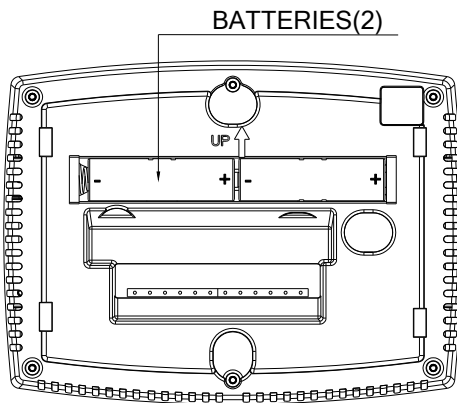

Fig. 22. Installing batteries.
1. Install Two AA alkaline batteries on the back of the thermostat as marked on the thermostat. See Fig. 22.